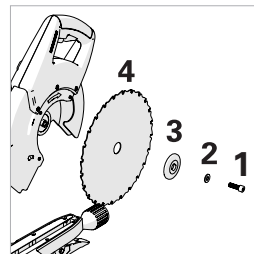

Fig. 41 View of
- Using the supplied Hex Key, release the arbor screw and remove the washer and blade flange and the blade from the arbor. (Fig. 41)